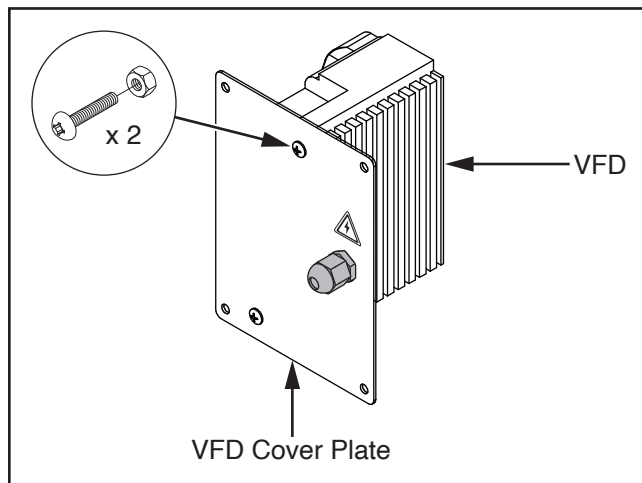

Figure 9. VFD installed on VFD cover plate (power cord removed for clarity).
9. Install VFD on VFD cover plate with (2) #10-24 x 1/2" Phillips head screws and #10-24 hex nuts (see **Figure 9**).